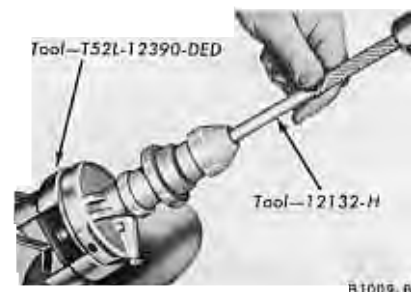

FIG. 6—Bushings Removal
16. Compress and insert the slotted end of the bushing removal tool in the distributor body. Allow it to expand and butt against the bushing. Drive out the bushing (Fig. 6).